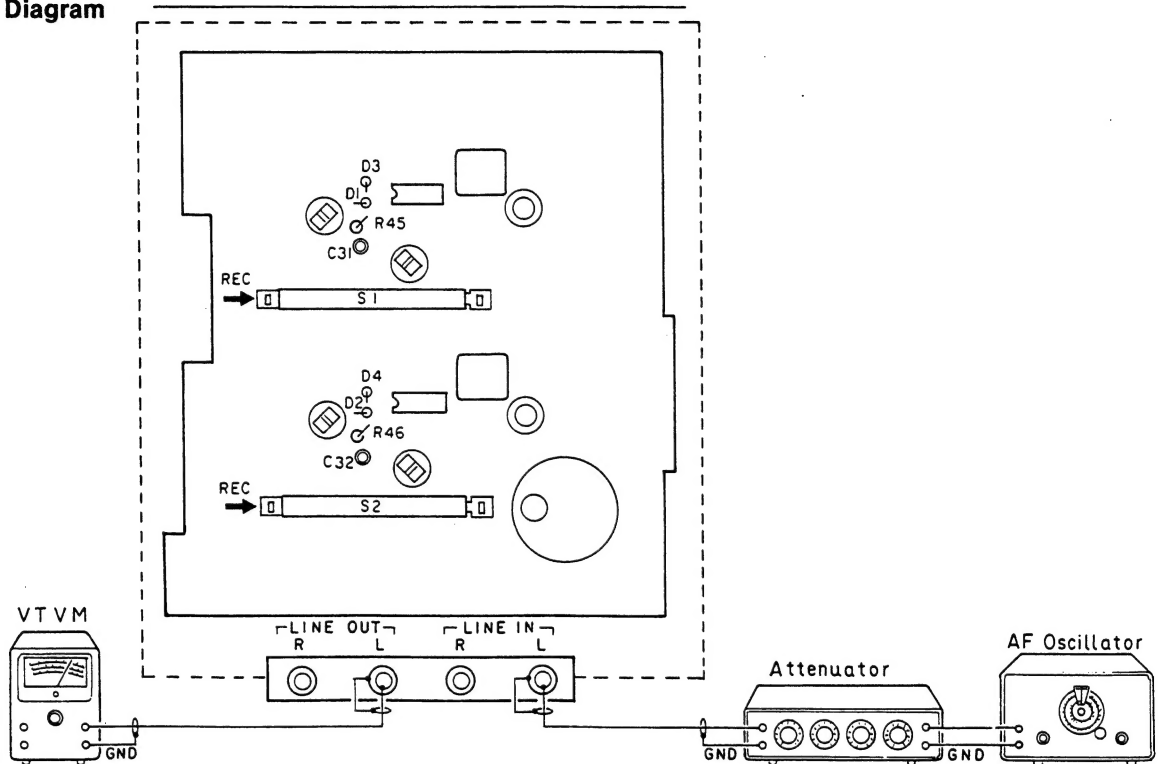

Fig. 9
1. Add a 400Hz, - 20dBm signal at Line In. With the equipment in recording mode, adjust Record Level control so the output level of Line Out is 580mV/400Hz (show in Fig. 9).